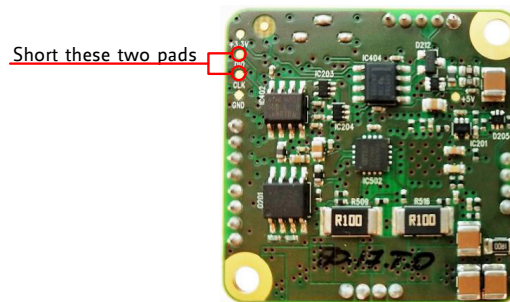

Figure 5: Reset to factory default settings.
2. Short CLK and DIO pads of the programming pads at the bottom of the PCB (see figure 5).